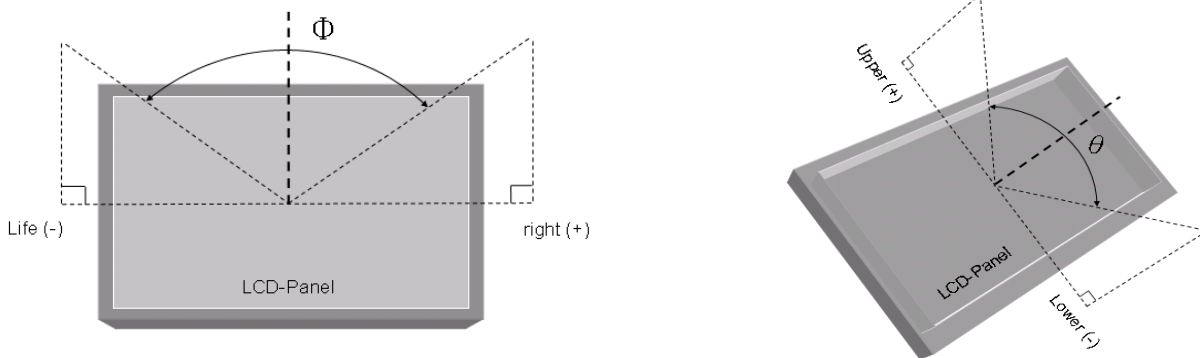

Fig8-2 Definition of Viewing Angle
*3) Definition of Viewing Angle(θ, ψ), refer to Fig8-2 as below :